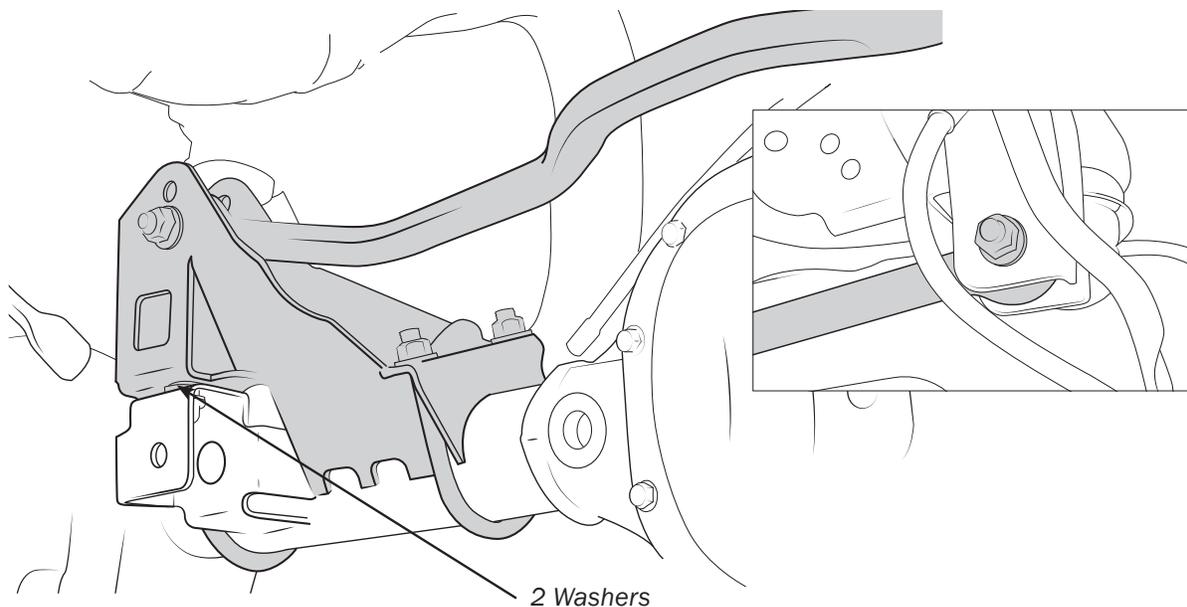

Figure 6
- C. Install the track bar tower with the supplied hardware using 2 of the 1/2" washers as spacers as shown. (Fig. 6) **DO NOT TORQUE THE U-BOLTS TO MORE THAN 40 ft-lbs.**
12. Install the new rear track bar hand tight as shown. This will be tightened later at ride height. (Fig. 6). **NOTE:** The trackbar bolts will be reinstalled in the opposite direction from factory (B.) Use the lower mounting hole for 3.5" suspensions (shown) and the upper for 4.5" suspensions.